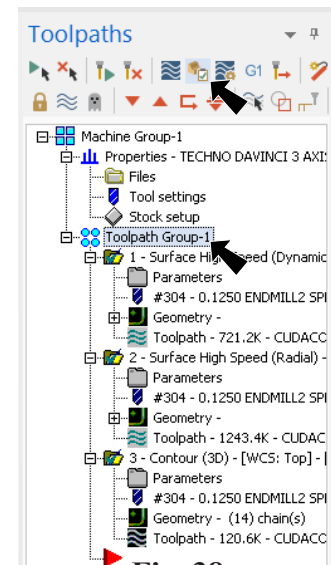

Fig. 38
Step 1. Click **Toolpath Group-1** in the Toolpaths Manager to select **all three toolpaths**, **Fig. 38**.
Step 2. Click **Verify** in the Toolpaths Manager, **Fig. 38**.